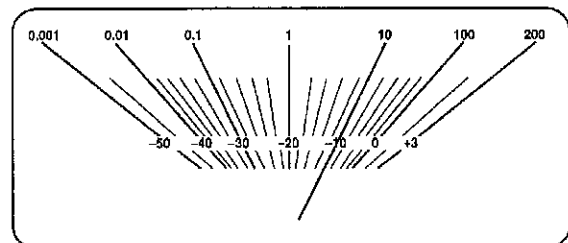

Fig.4
5. Adjust **VR909 (L ch)** and **VR910 (R ch)** so that the power meter indicates **10 W**. (Shown in Fig.4)